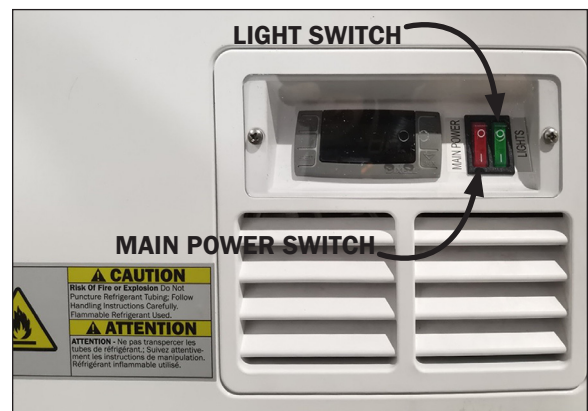

Fig. 25 Front panel power and light switch
1. First turn the power to the case OFF with the switch (Fig. 25) found at the front panel. **DISCONNECT POWER to the light before proceeding.**
1. First turn the power to the case OFF with the switch (Fig. 25) found at the front panel. **DISCONNECT POWER to the case before proceeding. The power can be disconnected at the main panel breaker in the building. Just turning OFF the case with the main power switch will NOT disconnect power coming to the case.**